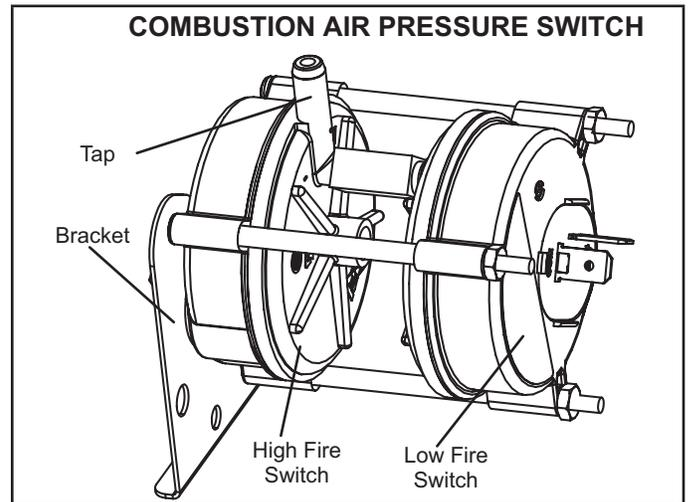

FIGURE 17
EL280UHE(X) series units are equipped with a dual combustion air pressure switch (first and second stage) located on the combustion air inducer orifice bracket. See FIGURE 17. The switch is connected to the combustion air inducer housing by means of a flexible silicone hose. It monitors negative air pressure in the combustion air inducer housing.